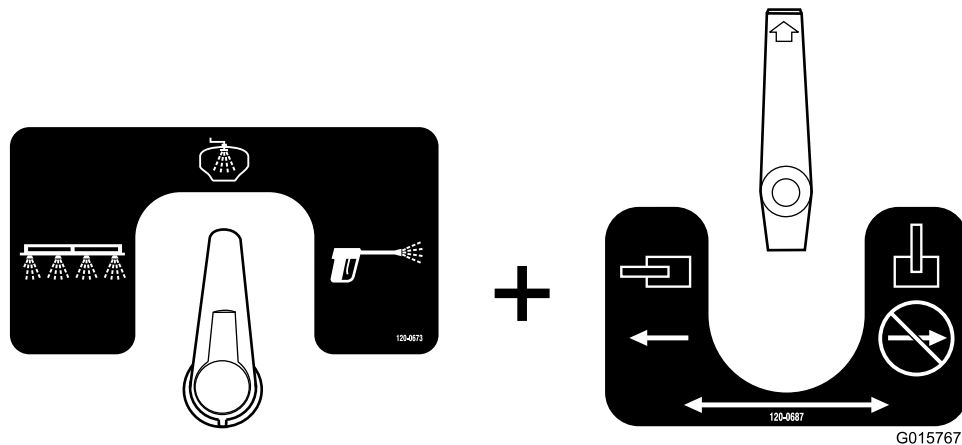

Figure 34
- This is the tank rinsing configuration (Figure 34). Use this configuration to spray rinse water out of the rinse nozzles in the tank.